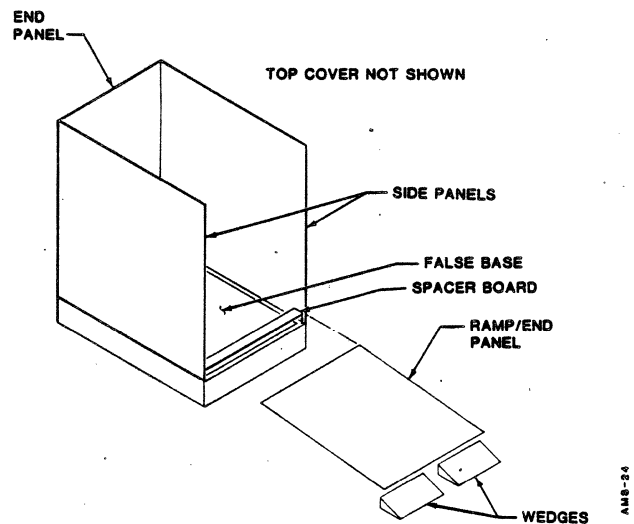

Figure 7-15. Cabinet Shipping Container with Ramp in Unloading Position
3. Refer to Figure 7-15 and use one end panel as a ramp to remove the cabinet from the container base and pallet. The ramp wedges and spacer board are stored under the cabinet assembly.